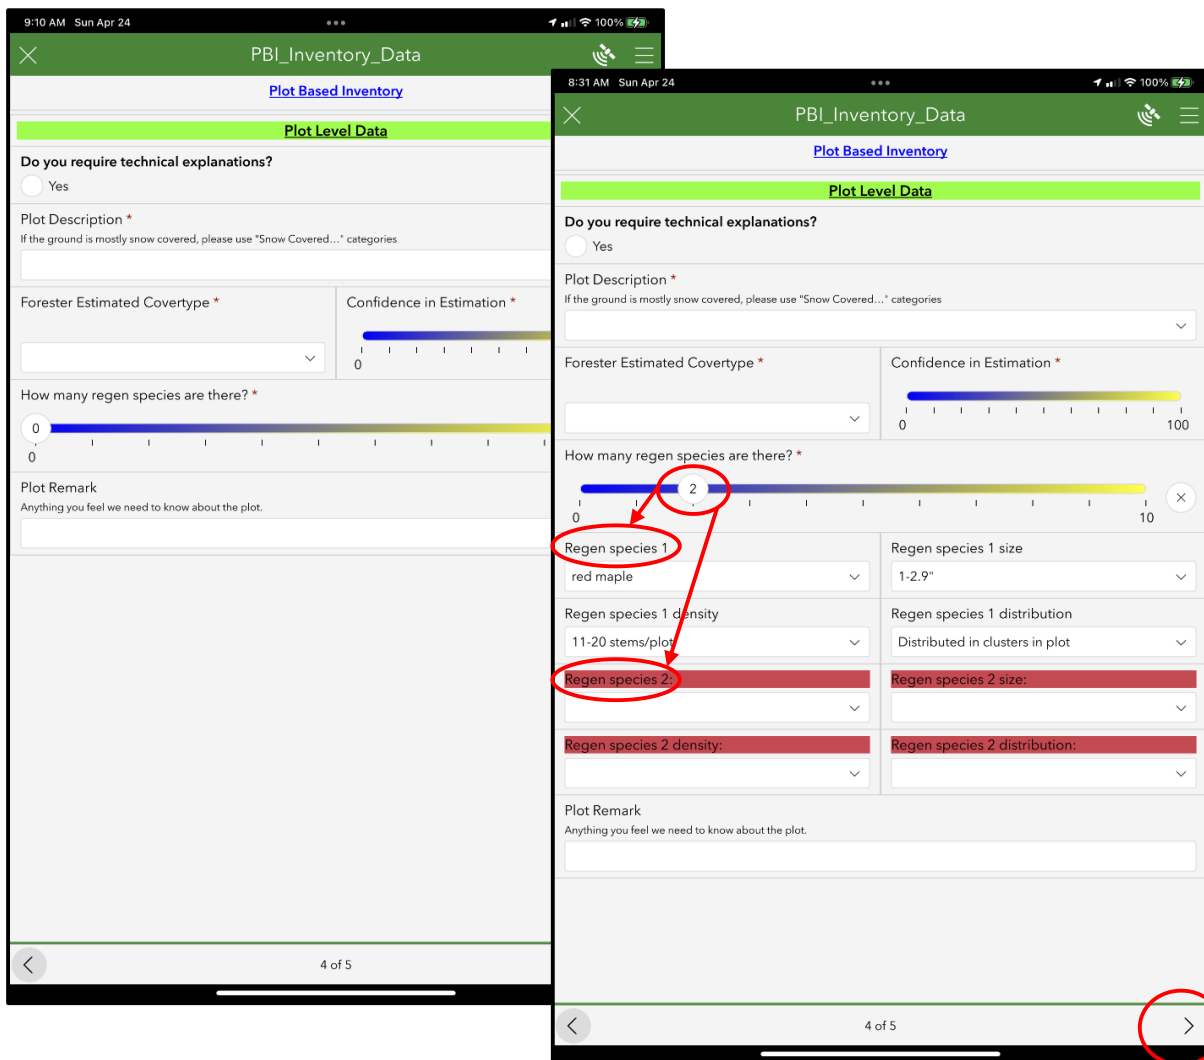

Figure 59. Figure showing Page 4 Fields and selection of regeneration species count and associated fields shown with Red Circles
Survey Page 4 – Plot Level Data (Figure 59)
2. Estimate and select the number of Regeneration Species there are on the plot. You can change the number as you go to add additional species (Figure 59)